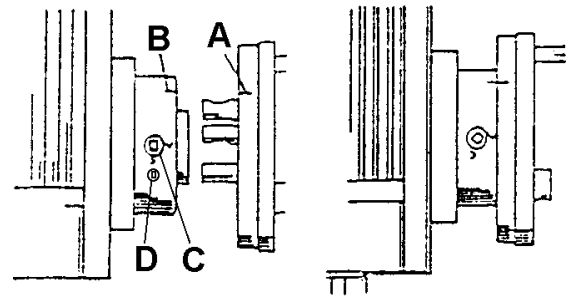

FIGURE 8
Before mounting a chuck, face plate or other attachments (A) Fig.8, it is very important that the mounting surfaces on both the spindle nose (B) and the attachment are extremely clean.
All the camlocks (C) should be in their release position (camlock mark line matches the spindle nose mark line) and the cap screws (D) must be loosened before mounting. Mount the attachment onto the spindle nose, once the attachment is in position, each camlock must be tightened and locked into place. Camlocks are tightened by turning them clockwise using the provided Camlock Key. The cams are properly locked into place when the camlock mark line is in between the 2 V's on the spindle nose, see Fig.8. Retighten cap screws (D) into spindle nose and tighten using appropriate hex. key.